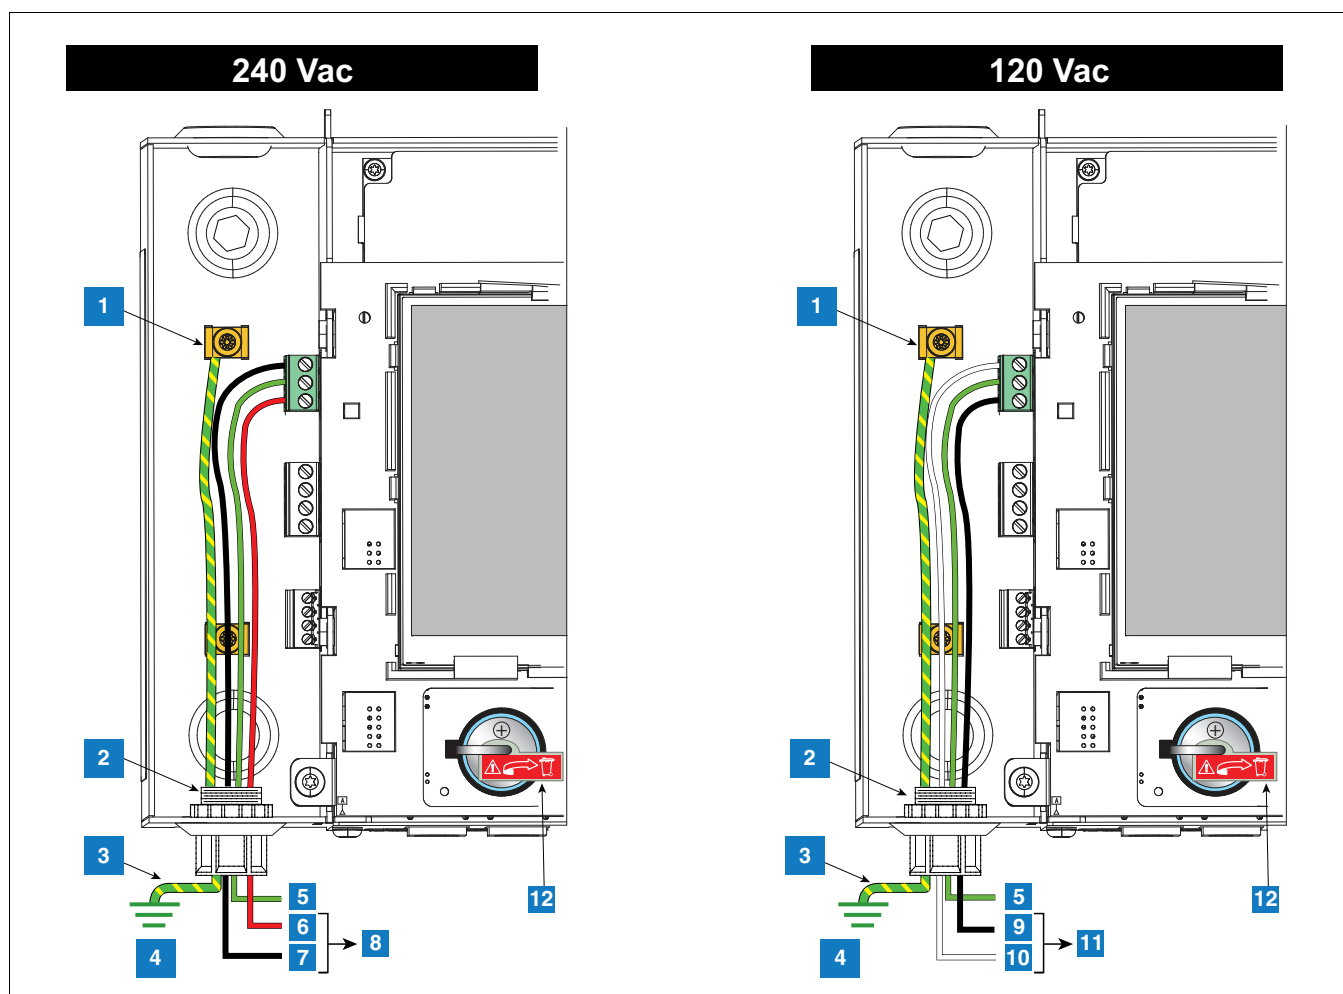

Figure 6. Wiring AC Power to the Console
- Connect the input 120 or 240 Vac power wires as shown in Figure 6.
LEGEND FOR NUMBERED BOXES IN Figure 6